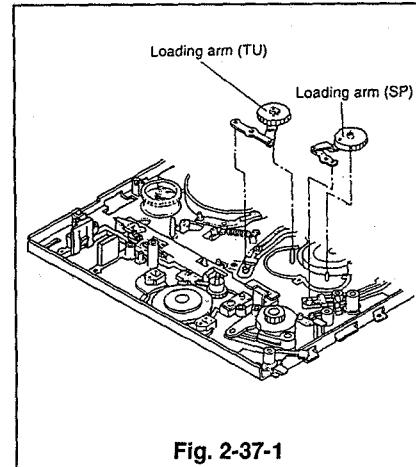
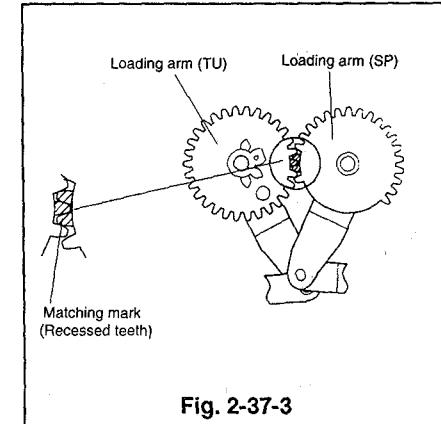

Fig. 2-37-1
Fig. 2-37-3
- ⑤ Raise the loading arms upward, first SP and then TU, to remove them. (Refer to Fig. 2-37-1)
- ② Place the new loading arm (TU) in the position shown in Fig. 2-37-1, then place the loading arm (SP) in the position shown in Fig. 2-37-1 at the same time aligning the marks on the cogs, refer Fig. 2-37-3(shaded area).
- ③ Apply grease (G)[859D055O50] to the area that touches the cogwheel of the loading arm (TU) when the loading arms (SP and TU) are shifted fully to the loading direction. Apply grease (G)[859D055O50] to the gear portion that meshes with the plate cam B.
- ② Align the loading arms TU and SP so that the matching marks of the cogs align. (Refer to Fig. 2-37-3)